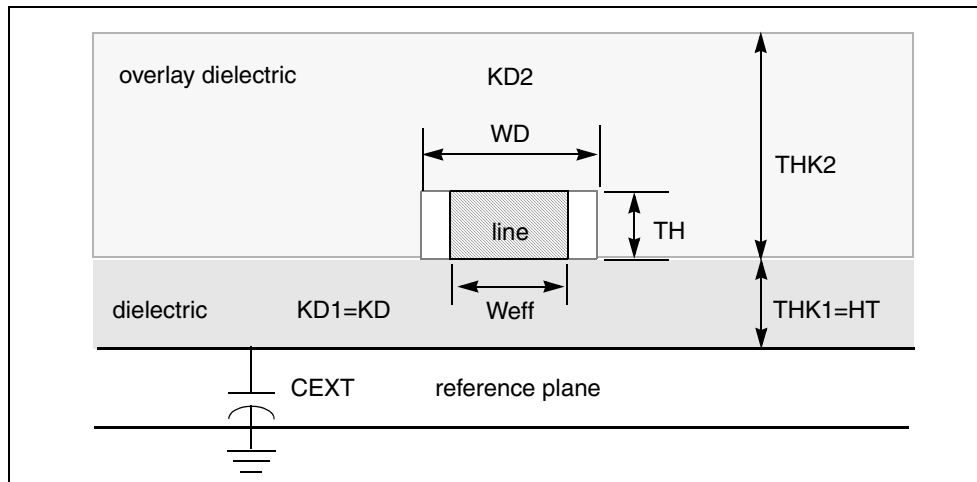

Figure 84 Planar Transmission Line, DLEV=3, Overlay Dielectric
- DLEV=3 – overlay dielectric. This planar conductor has a single reference plane and an overlay of dielectric material covering the conductor (see Figure 84 on page 289).